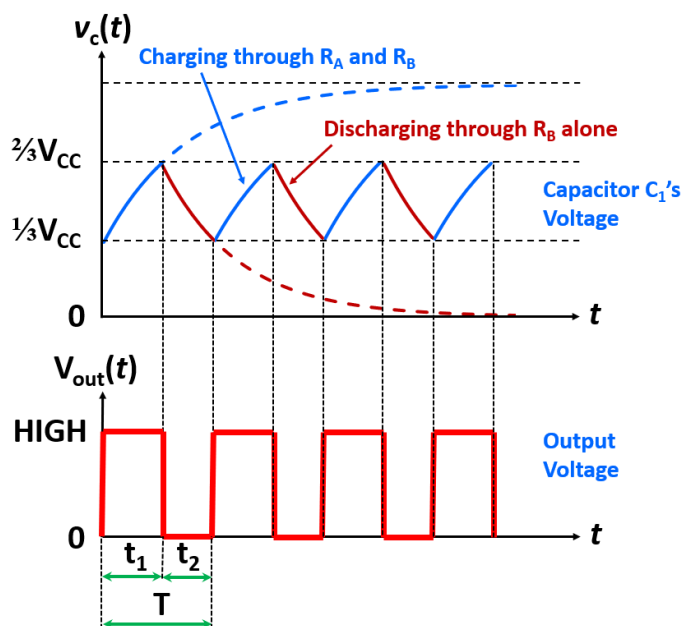

Figure 7: Relationship between Capacitor C_1 's voltage (v_c) and the 555 IC's output voltage (V_{out}).
How does this circuit work? The 555 chip essentially permits capacitor C_1 to charge through resistors R_A and R_B with current flowing from the power supply V_{CC} . Pin 6 of the chip monitors the rising voltage on C_1 and when it reaches $\frac{2}{3}V_{CC}$, the capacitor is allowed to discharge through R_B into Pin 7. Once it has discharged to $\frac{1}{3}V_{CC}$, it is again allowed to charge, and the cycle repeats. Figure 7 below illustrates this mechanism. The size of the capacitance C_1 as well as the resistances R_A and R_B determine how long it will take for the capacitor to charge and discharge. While the capacitor is charging, the chip sets the output pin to HIGH; during discharging, the output pin is set to 0 V. The timer is thus nominally a square wave generator.
7. Connect the BitScope to your computer, and run BitScope DSO. Turn on the power to your circuit, and the BitScope. Change the timescale in the "Timebase Control (6)" panel to **2 ms/Div**. Change the voltage scale of Channel A in the "Channel Controls (7)" panel to **500 mV/Div**. Click the "ON" button for Channel B in this panel to activate it. You can leave the voltage scale unchanged as **1 V/Div** for Channel B. The waveforms you see on the screen should now resemble the waveforms in Figure 7.
8. Click the "TRACE" button in the "Timebase Control (6)" panel to freeze the waveforms. You will now use the cursor functions to perform measurements. Click on "CURSOR" in the "Scope Selectors (2)" panel to turn it on. Left-click on the *vertical* orange cursor line on the main screen, and drag it to the time instant where the output's "falling edge" occurs. Next, left-click on the *vertical* dirty-green cursor line on the main screen (you should be able to find it at the extreme left), and drag it to the time instant where the output's "rising edge" occurs. Choose the rising edge that is immediately before the falling edge where the orange cursor was previously set. The duration of t_1 is now given in the "Cursor Measurements (5)" panel (look at the time shown in cyan colour). Write down the value you have obtained.
9. Now, use the cursors to measure the duration of t_2 using a similar approach, and write down its value. Finally, measure the duration of an entire period using a similar approach. Note that when you do this, the frequency is also automatically computed for you inside the "Cursor Measurements (5)" panel (shown in cyan colour). Write down this frequency's value. Take a screenshot of your BitScope DSO showing the waveforms, and include it in your report.